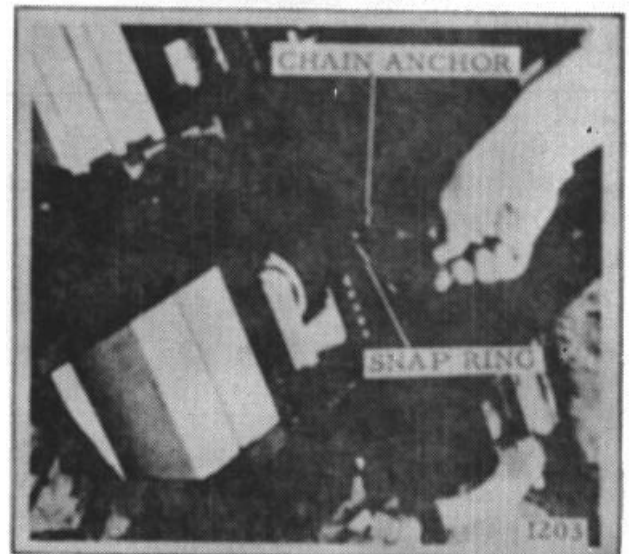

Figure 2.
3. Disconnect the load chains from the carriage. (Fig. 2) Lift the inner upright until it is free of the carriage.